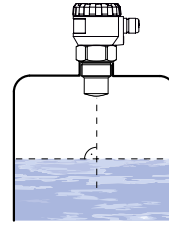

Fig. 1: Recommended installation in the tank
- Install the level meter in the vertical position into the upper lid of the tank or reservoir using a welding flange, a fastening nut or a flange so that the level meter axis can be perpendicular to the level of the measured liquid (Fig. 1).